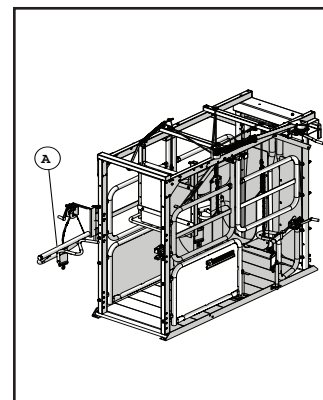

Figure 6: Rear leg lifter (open position)
6. After the back stop is positioned close the rear leg lifter (a) (Figure 6).